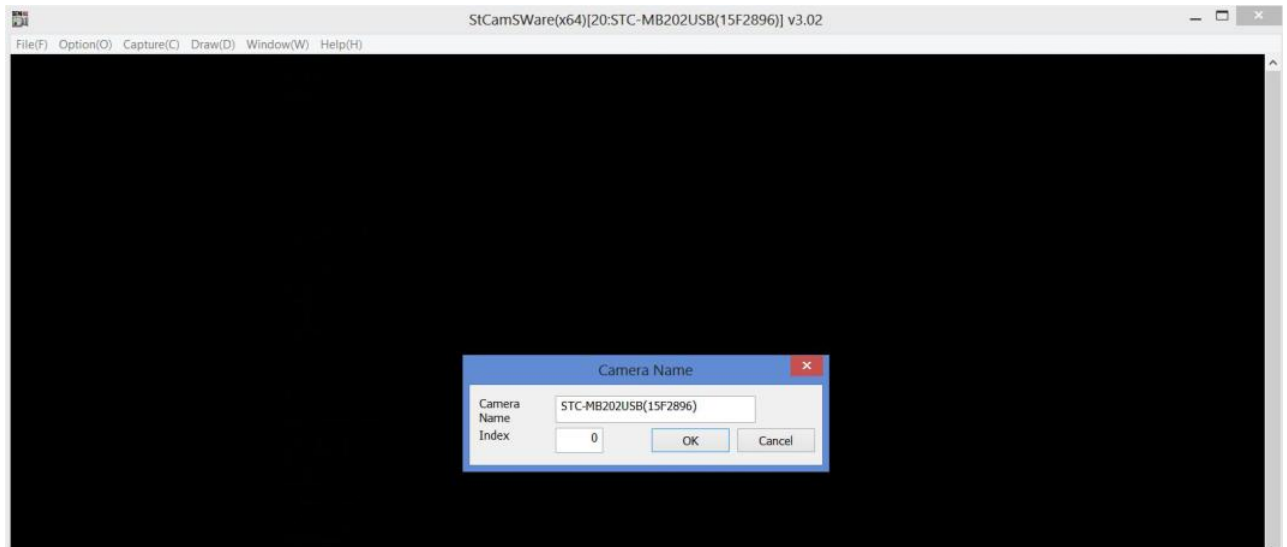

Figure 30 Camera Name Dialog Box
29. Camera Name Dialog box would be illustrated as below Figure 30.